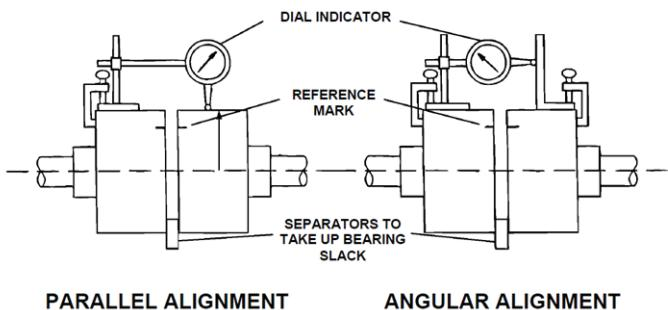

Figure 8 – Checking Alignment (Dial Indicator Method)
14.2 For Fine Alignment, 3500 RPM OPERATION, For Other Coupler Types (See figure 8)